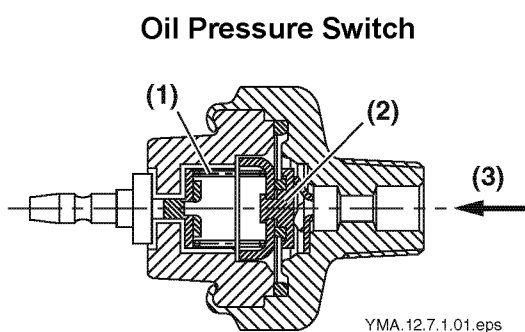

Figure 11-10
The contacts (Figure 11-10, (2)) of the oil pressure switch are normally closed.